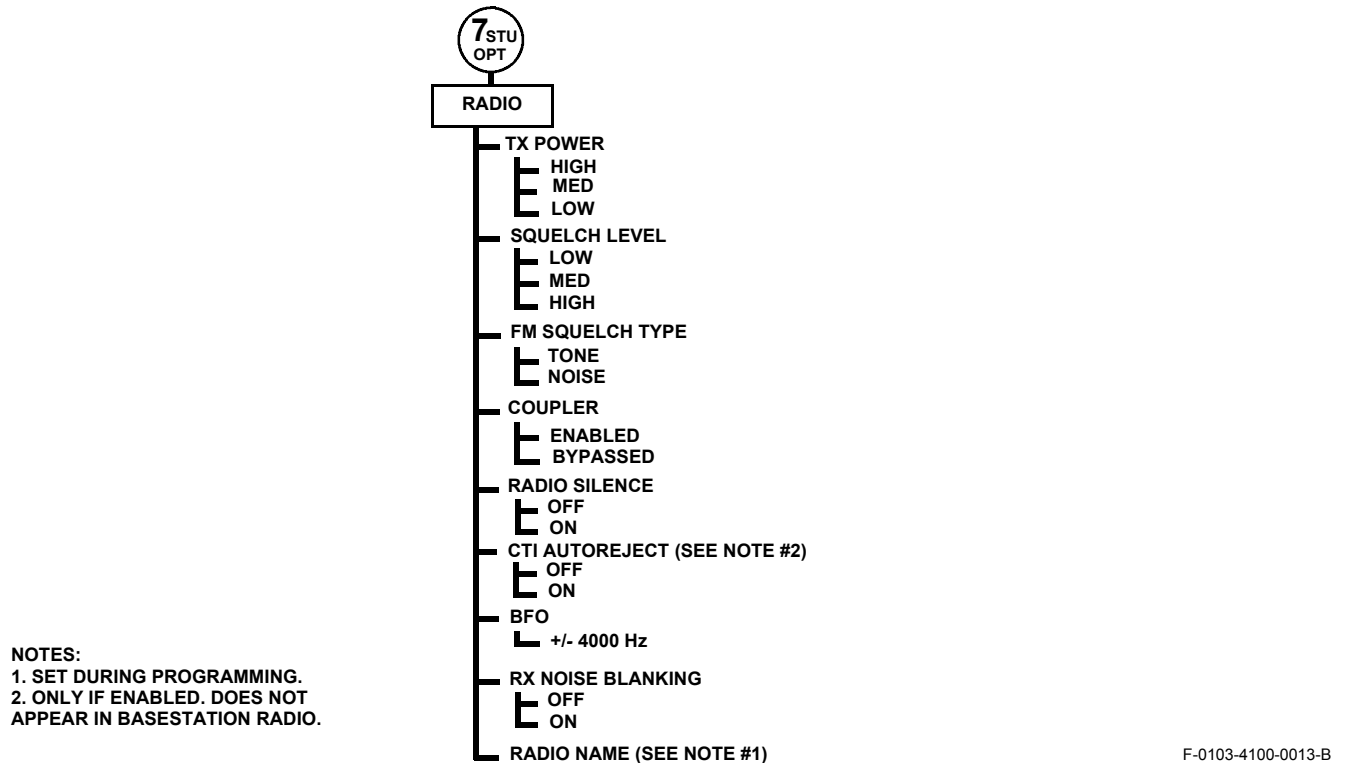

Figure 3-8. Radio Option Menu Tree
See Figure 3-8. Perform the following procedure to set transmit power level:
See Figure 3-8. Perform the following procedure to set squelch level:
The internal coupler should be enabled to allow a resonant or field expedient antenna to be used at any frequency. The internal coupler must be disabled during wideband and list frequency hopping. Otherwise, a hopping error may occur at some frequencies. When the coupler is disabled, a broadband antenna should be used for maximum performance and VSWR should be measured, as described in Paragraph 3.5.4. See Figure 3-8. To bypass/enable the internal coupler, perform the following:
The AN/PRC-150(C) silence option is used during ALE, 3G and 3G+ radio modes. This feature enables the operator to disable the AN/PRC-150(C) from automatically responding to an ALE or 3G call. This option is only enabled in receive and may be overridden if the operator places an ALE or 3G call. Radio Silence is not the same as Receive Only, which can be programmed into any radio mode. See Figure 3-8. Perform the following procedure to turn radio silence on or off:
See Figure 3-8. An offset may be required for communications with old radios whose frequencies have drifted. Some operators prefer to change the BFO for personal tone preferences during CW operation. Perform the following procedure to set BFO offset:
The RX noise blanking is used to filter signals that are interfering with the intended receive signal. This filtering or blanking will also reduce the strength of the intended signal and should only be used if the intended signal is strong enough to overcome the filtering. See Figure 3-8. Perform the following procedure to set RX noise blanking: